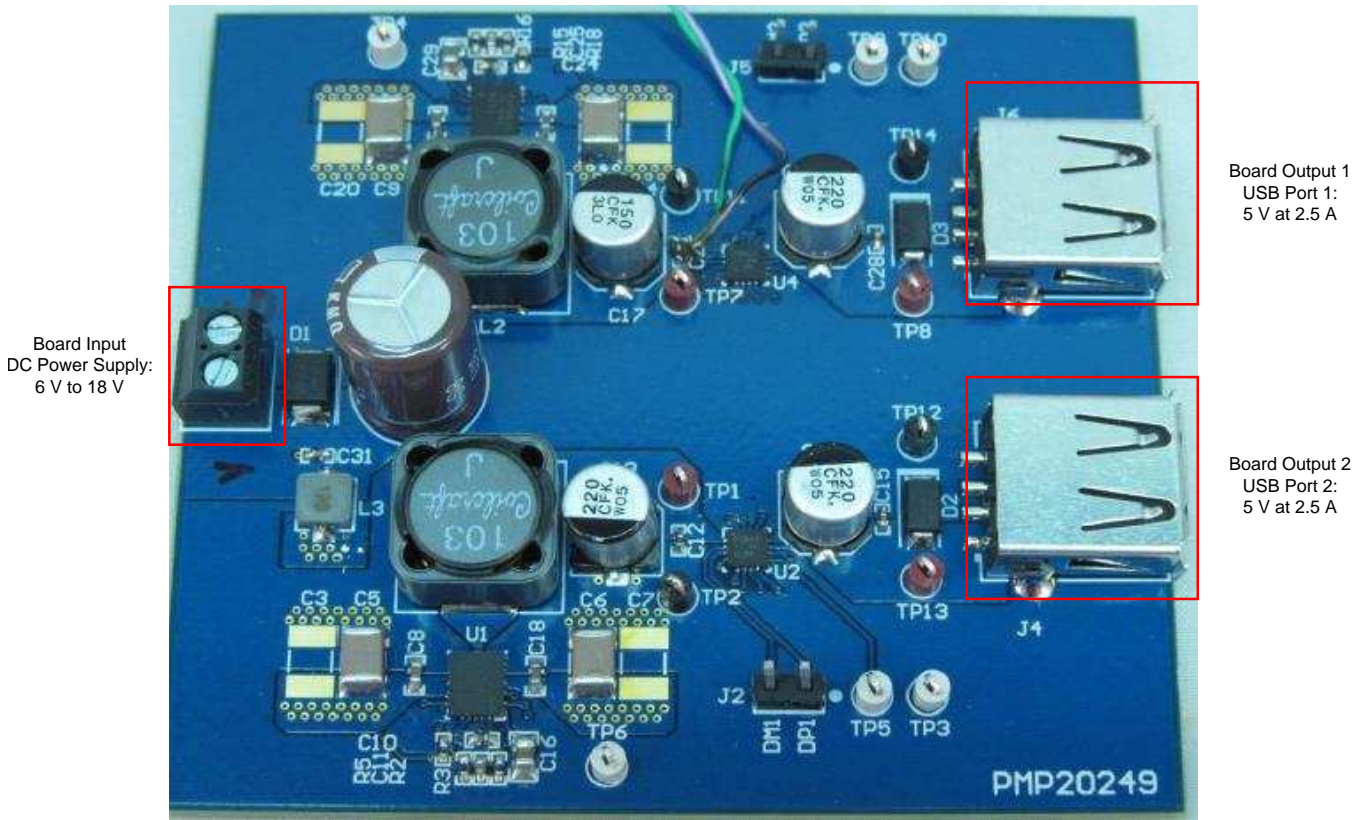

Figure 2. PMP20249 Board Setup
1. Connect a DC power supply to the board input as identified in Figure 2.